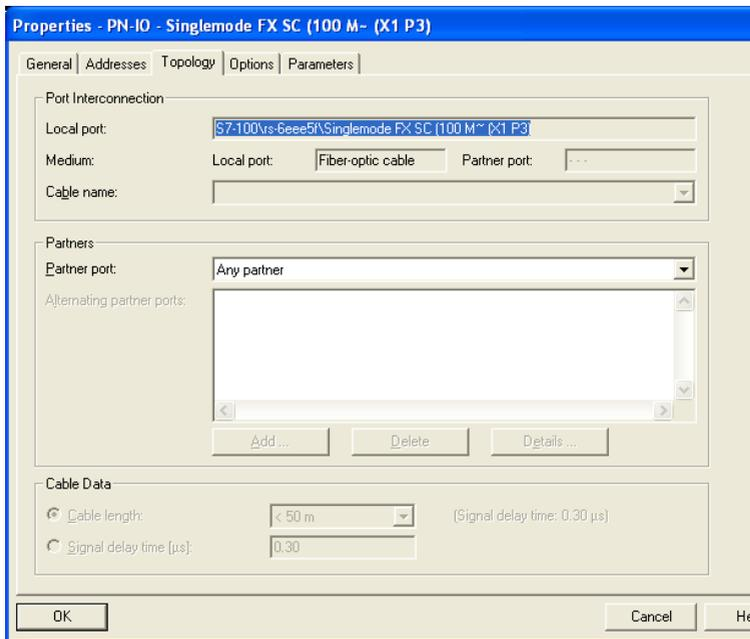

Figure 17: Dialog for entering the topology
- Under Port Interconnection/Local port, select the required setting for the port (see figure 17).
- Under Partner/Partner port, select the required setting for the partner port (see figure 17).